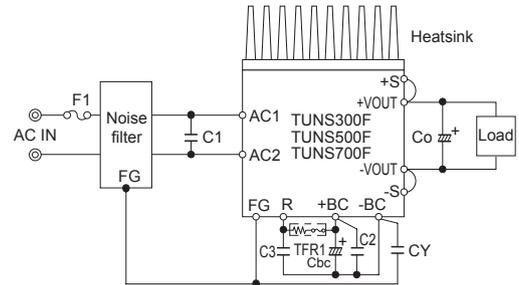

Fig.2.1 Connection for standard use
- To use TUNS series, connection shown in Fig.2.1 and external components are required.
■ Install an external capacitor Co between +VOUT and -VOUT pins for stable operation of the power supply (Fig.2.1).